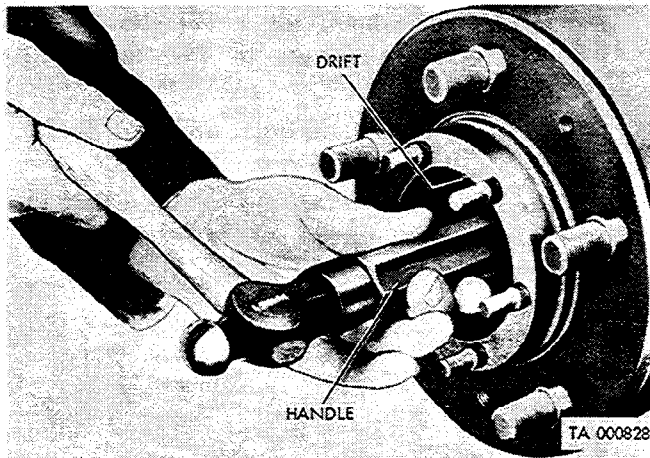

Figure 2-162. Removing inner bearing cone and oil seal.
(1) Remove the snapping (N) that secures the oil seal (M).
(2) Insert the drift, with handle (fig. 2-162) in the hub from the outer end, so the drift bears against the inner bearing cone. Drive the inner bearing cone and inner oil seal from the hub in one operation. Remove the drift and handle.